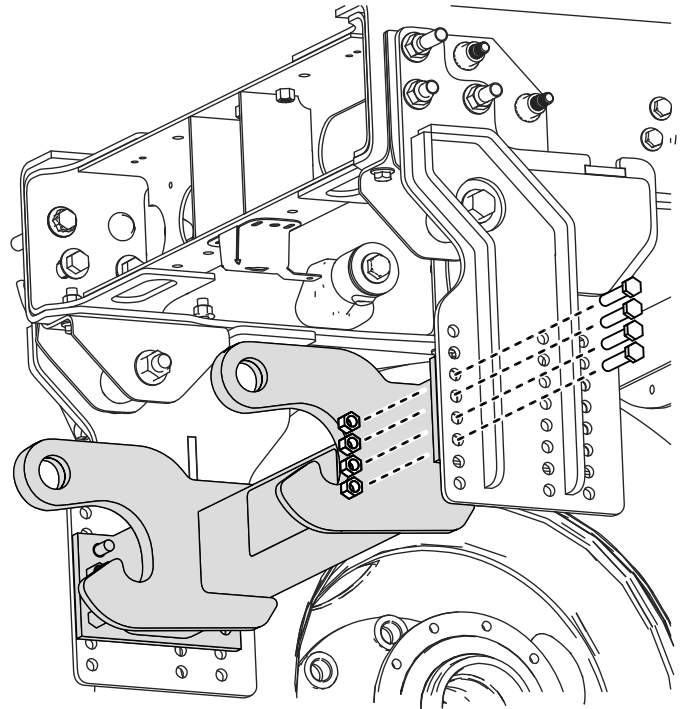

**Figure 2**
4. Loosely secure the sideplates to the vehicle frame using 1 bolts (M16), 1 locknut, and 4 of the previously removed bolts and nuts (Figure 2 and Figure 3).